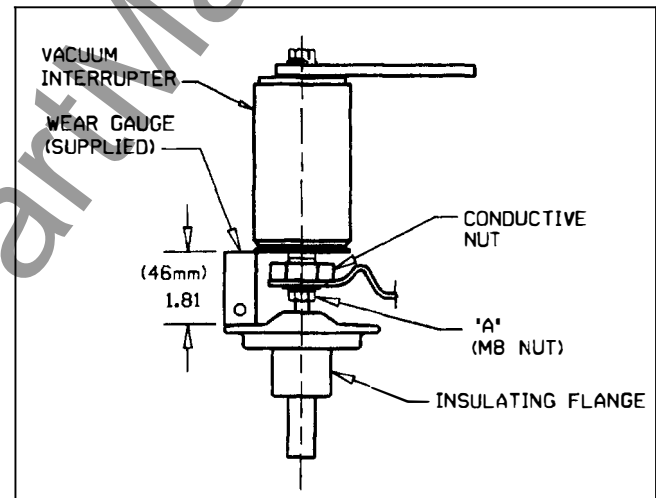

Figure 14. Mounting Vacuum Interrupter and Adjustment of Gap
- 2) As shown in **Figure 14**, turn the insulating flange until the gap is 46mm (1.81").